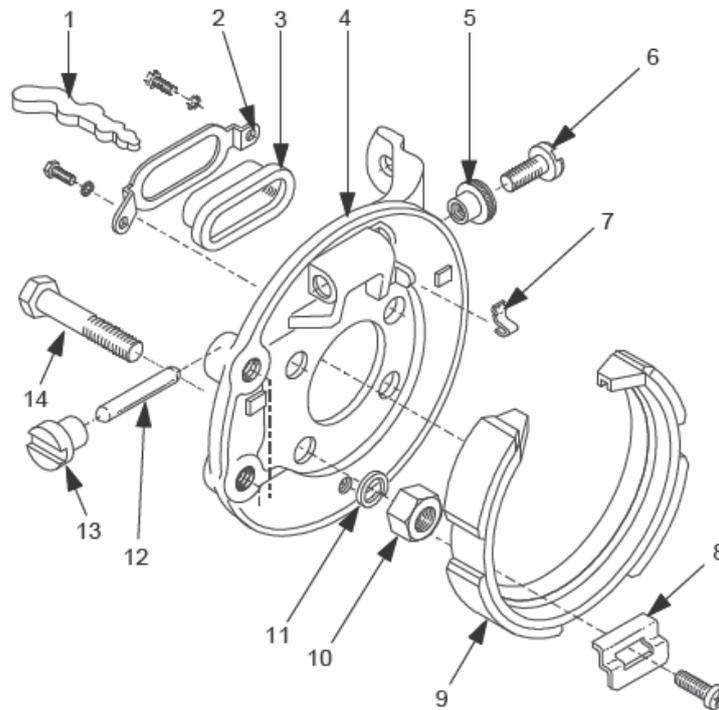

Figure 9 Park Brake Assembly - Exploded View
**51. Description.** The parking brakes consist of an adjustable, internal, expanding, single shoe and drum type brake activated by an over-centre type lever situated centrally on the front cross-member (Figure 9).
- b. Position the draw link (Figure 9, Item 1) and dust boot (Figure 9, Item 3) on the backing plate (Figure 9, Item 4) with the draw link facing rearwards. Stretch the dust boot over the retaining lip on the back of the backing plate then fit the retaining plate and secure with the two mounting screws fitted with spring washers.
- d. Install the adjuster pawl (Figure 9, Item 7).
- e. Screw the tappet (Figure 9, Item 6) into the adjusting nut (Figure 9, Item 5) until fully home.
- g. Install the push rod (Figure 9, Item 12) into the tappet (Figure 9, Item 13).
- j. Fit the park brake shoe (Figure 9, Item 9) in the operating position.
- k. Apply thread sealant to the hold-down plate mounting screw and install the plate (Figure 9, Item 8). Torque the screw to between 2 – 5 N.m.
- p.** Install the backing plate on the axle flange and secure it with the four bolts (Figure 9, Item 14), spring washers (Figure 9, Item 11) and nuts (Figure 9, Item 10). Torque the bolts to 45 N.m.
Table 2 Annotation to Figure 9